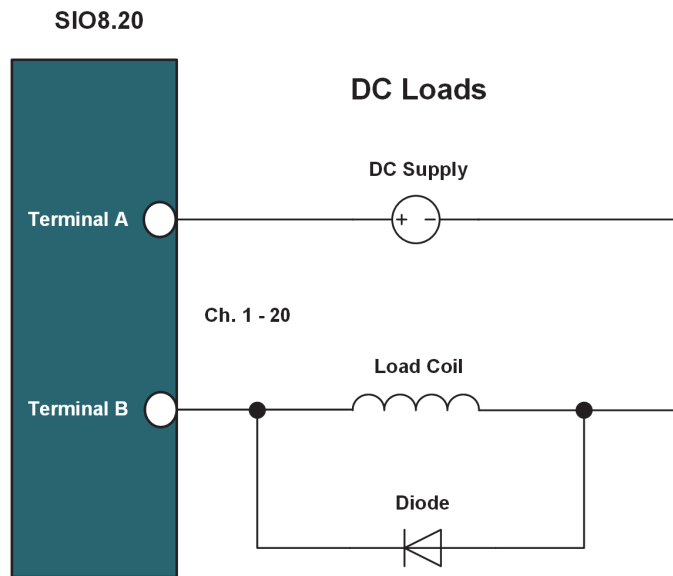

Figure 8-16 SIO8.20 Diode Suppression Circuit with DC Load
- External surge protection is required across the load for inductive loads greater than 60 mH. A suppression circuit for DC loads is shown in Figure 8-16.